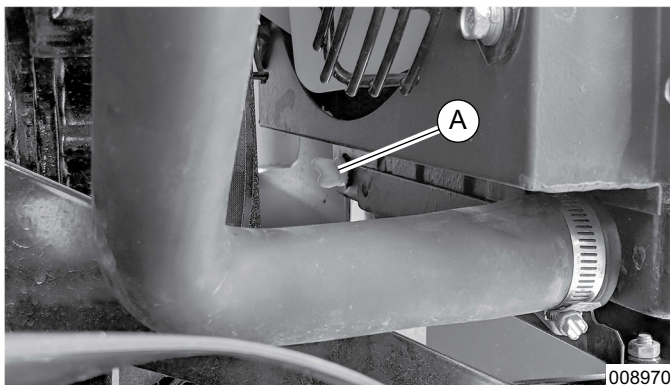

Figure 4-1. Coolant Drain Plug
2. See Figure 4-1. Verify coolant drain plug (A) is closed.